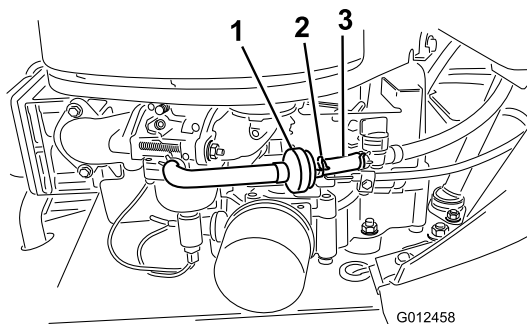

Figure 28
9. Remove the drain plug to allow the oil to drain (Figure 28).
7. Loosen the hose clamp at the fuel filter and slide it up the fuel line away from the fuel filter (Figure 28).
8. Pull the fuel line off the fuel filter (Figure 28).
11. Slide the hose clamp close to the fuel filter to secure the fuel line (Figure 28).
The best time to replace the fuel filter (Figure 28) is when the fuel tank is empty. Never install a dirty fuel filter after it has been removed from the fuel line.